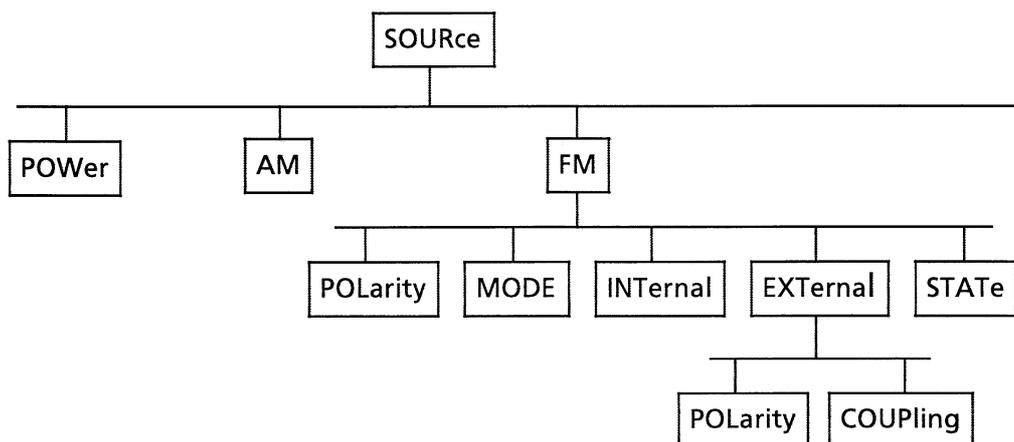

Fig. 3-1 Tree structure of the SCPI command systems using the SOURce system by way of example
SCPI (Standard Commands for Programmable Instruments) describes a standard command set for programming instruments, irrespective of the type of instrument or manufacturer. The goal of the SCPI consortium is to standardize the device-specific commands to a large extent. For this purpose, a model was developed which defines the same functions inside a device or for different devices. Command systems were generated which are assigned to these functions. Thus it is possible to address the same functions with identical commands. The command systems are of a hierarchical structure. Fig. 3-1 illustrates this tree structure using a section of command system SOURce, which operates the signal sources of the devices. The other examples concerning syntax and structure of the commands are derived from this command system.
**Hierarchy:** Device-specific commands are of hierarchical structure (see Fig. 3-1). The different levels are represented by combined headers. Headers of the highest level (root level) have only one key word. This key word denotes a complete command system..
If the successive commands belong to the same system, having one or several levels in common, the command line can be abbreviated. To this end, the second command after the semicolon starts with the level that lies below the common levels (see also Fig. 3-1). The colon following the semicolon must be omitted in this case.